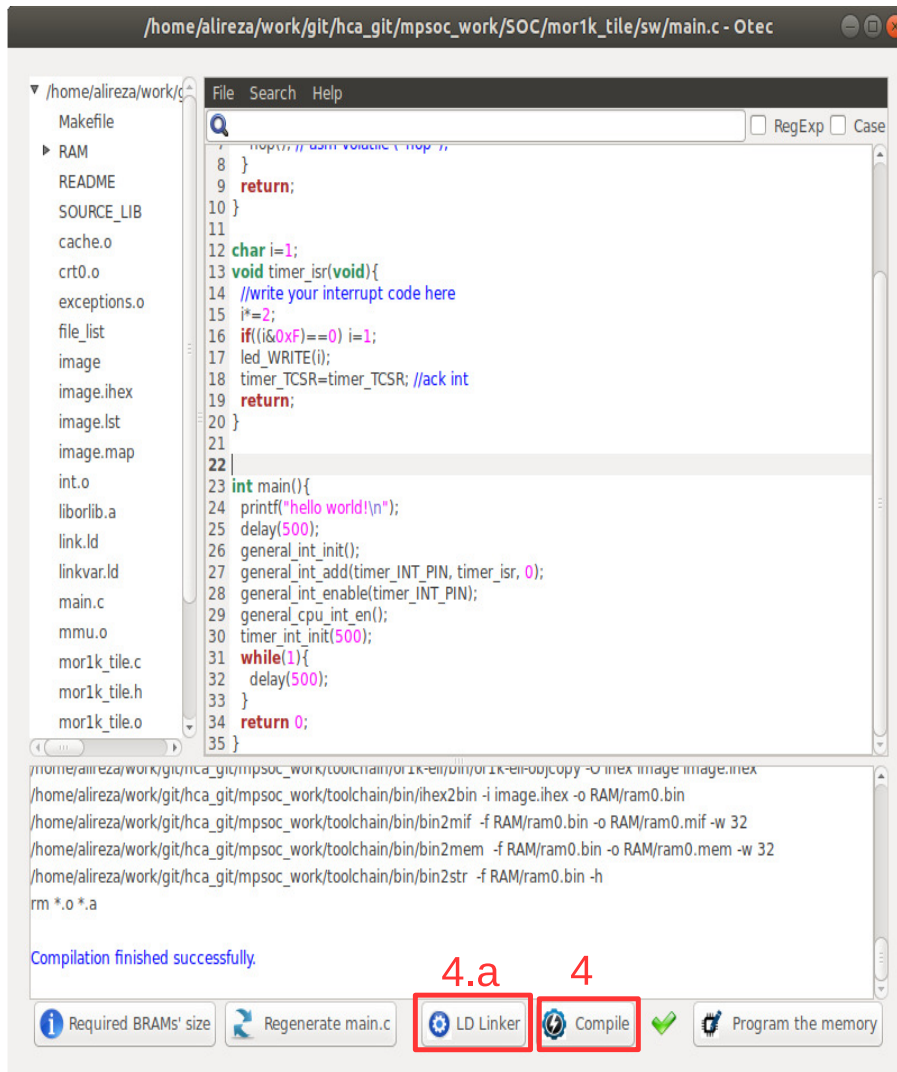

Figure 5.11: Compile the software code.
- Now press the  Compile button. This will compile the C code using Mor1kx GNU toolchain. If everything runs ok, you must see "compilation finished successfully" message as shown in Figure 5.11. Otherwise, check the error message to fix your code and press the compile button again. If every thing runs successfully you must have ram0.bin, ram0.hex, and ram0.mif files in your sw/RAM directory.